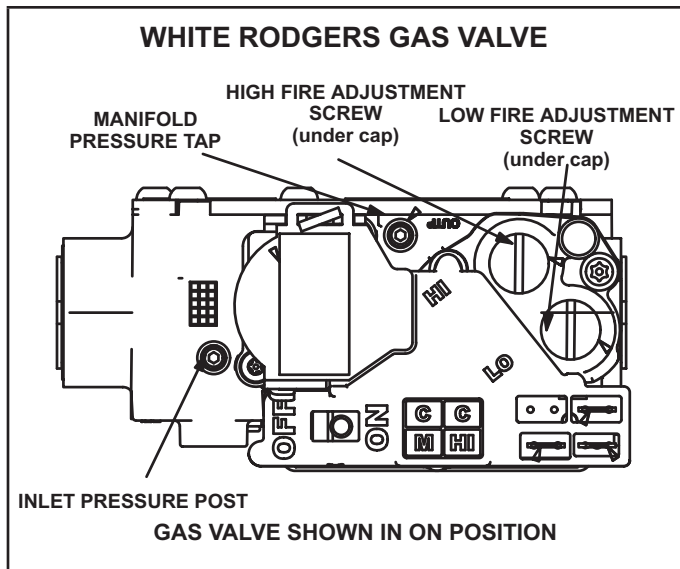

FIGURE 18
The two-stage gas valve (FIGURE 18) is internally redundant to assure safety shut-off. If the gas valve must be replaced, the same type valve must be used.
- 6 - Turn switch on gas valve to OFF. Do not force. See FIGURE 18.
- 8 - Turn switch on gas valve to ON. Do not force. See FIGURE 18.
- 4 - Turn switch on gas valve to **OFF**. Do not force. See FIGURE 18.
An inlet post located on the gas valve provides access to the supply pressure. See FIGURE 18. Back out the 3/32 hex screw one turn, connect a piece of 5/16 tubing and connect to a manometer to measure supply pressure. See TABLE 14 for supply line pressure.
- 1 - Connect test gauge to manifold pressure tap (FIGURE 18) on gas valve.
- 4 - If necessary, make adjustments. FIGURE 18 shows location of high fire and low fire adjustment screw.